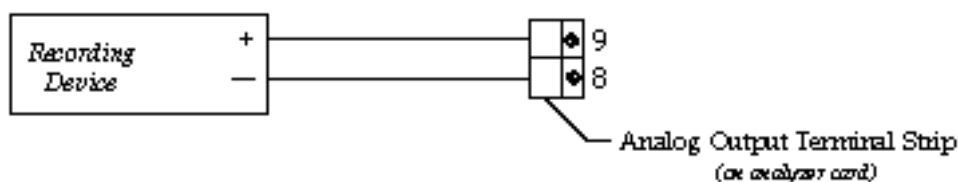

Figure 2-4: Recorder Output Wiring
3. Connect the leads from the recording device to the analog output terminal strip as shown in Figure 2-4.